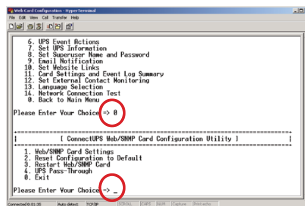

Figure 14. Save and Exit
7. Type **0** until you return to the Main Menu (see Figure 14).